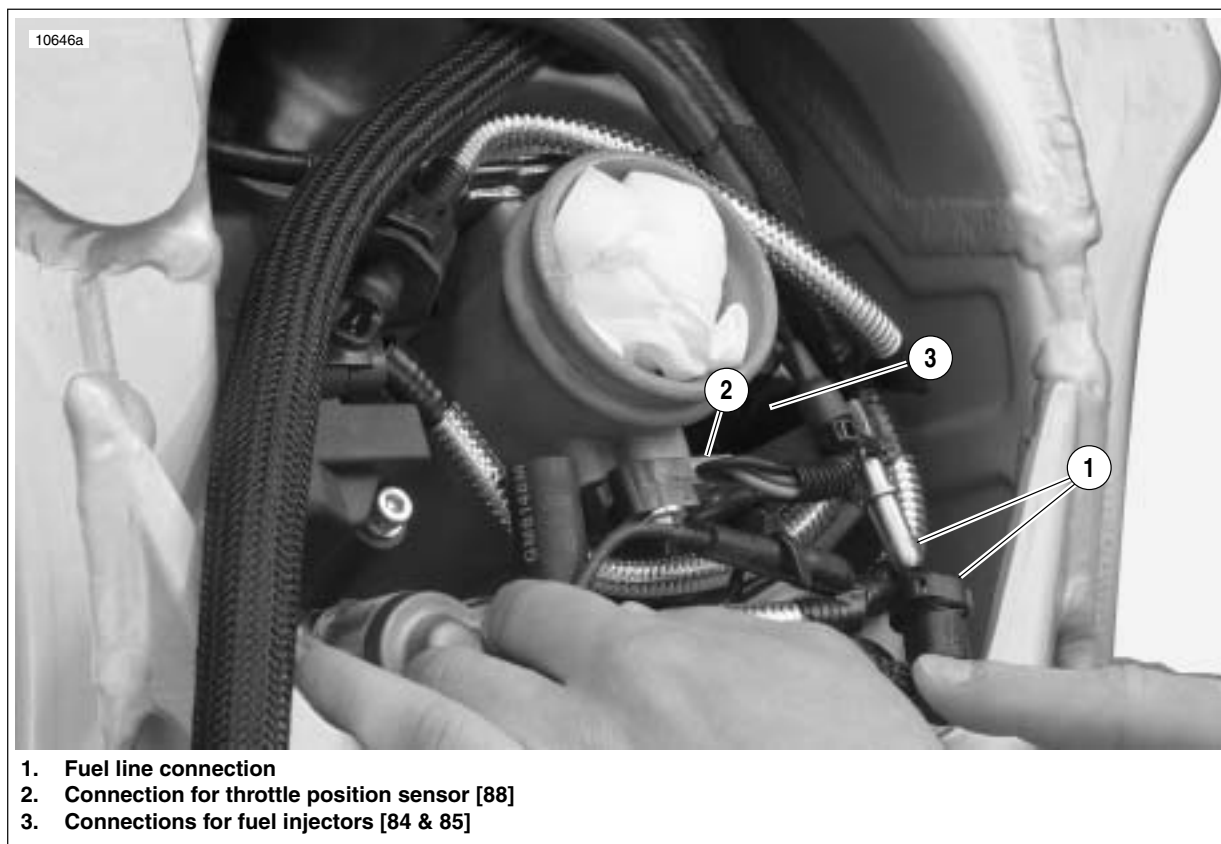

Figure 3-13. Fuel Line and DDFI Electrical Connections (Typical)
6. See Figure 3-13. Disconnect fuel line (1).